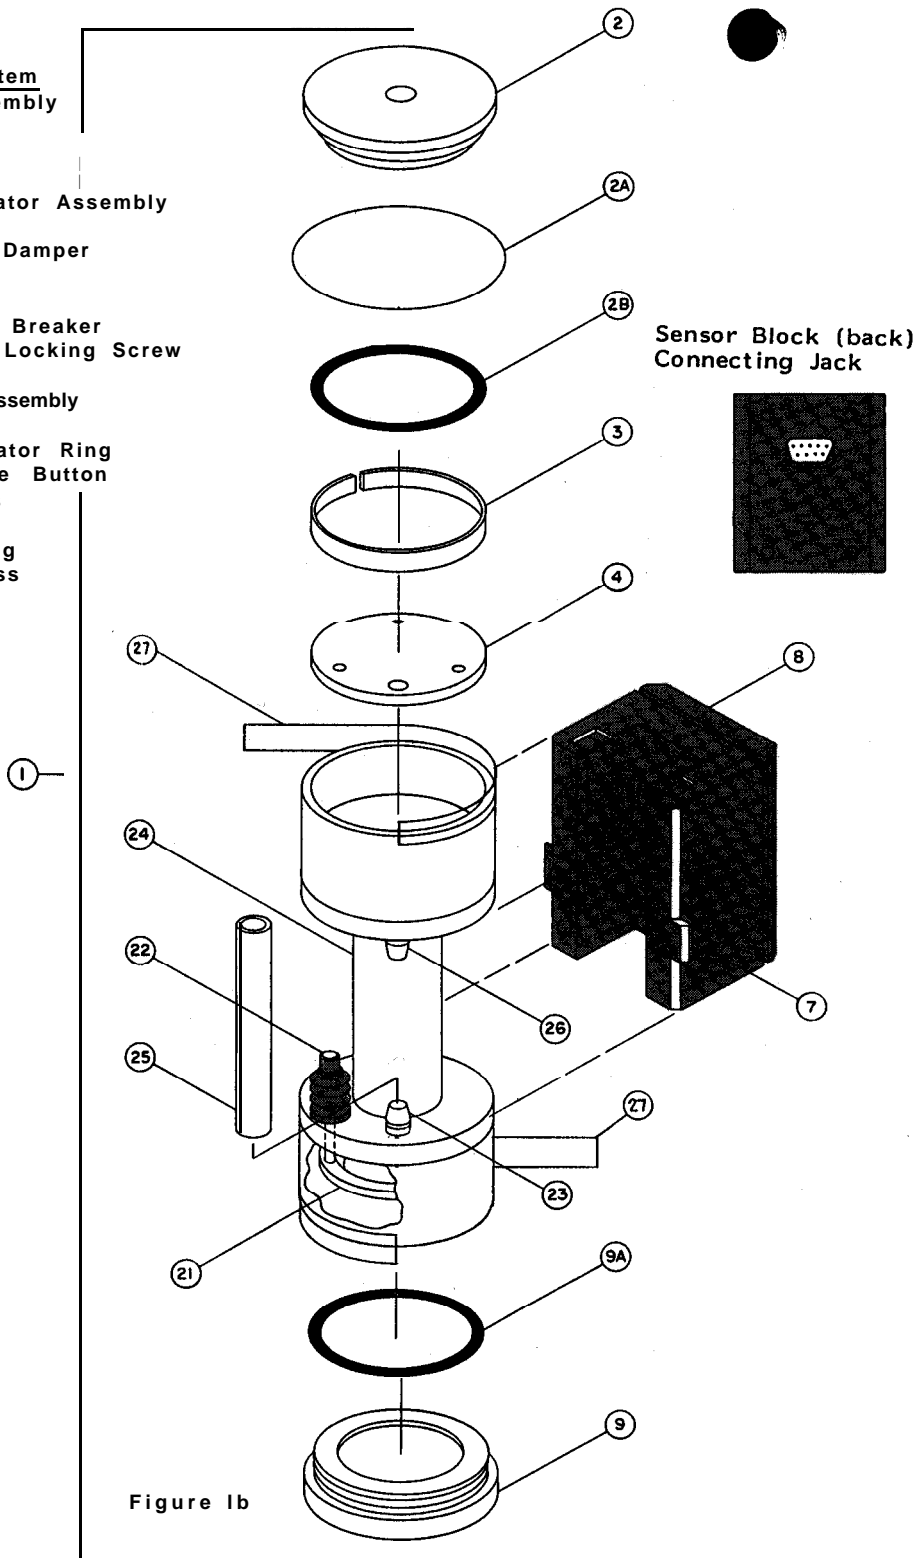

Figure 1b
1. Flow Cell Assembly (See fig. 1b)